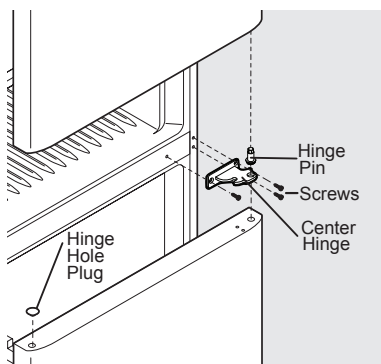

Figure 2
5. Unscrew the center hinge pin using an adjustable wrench and set it aside (see Figure 2).
- Remove the 3 center hinge screws using a Phillips screwdriver and set the center hinge aside (see Figure 2).